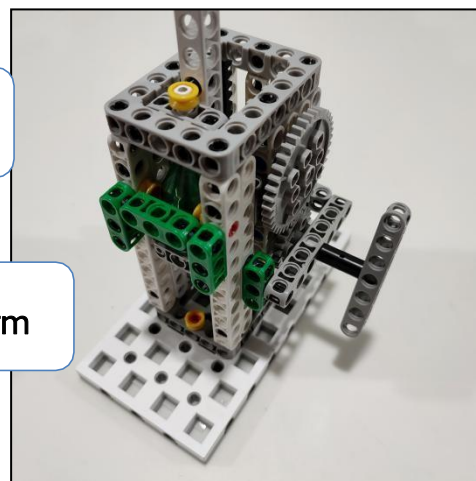

Figure 3-4-2 Finished Position
3.4.2 60 points are granted when the robot turns the lever so the lithium is attached to the magnet on top as shown in figure 3-4-2.